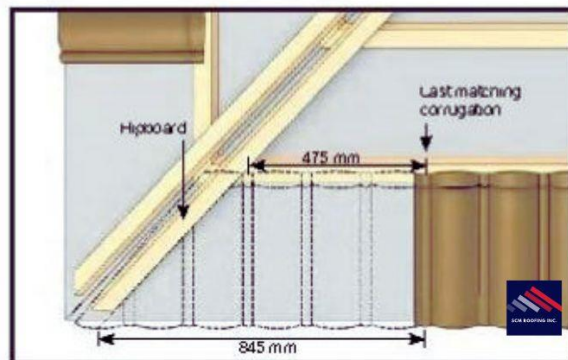

Figure 1.7
Measurements are made on the roof, but tiles are normally marked, cut, bent and stacked on the ground. To save time marking, cutting and bending each tile, it is best done by two installers - one to measure and the other to write the measurements down on a board or piece of paper as shown (Fig 1.7). To avoid confusion, cut, bend and stack tiles in strict order.
- (i) The basic measurement (recorded on paper or board) is taken from the last corrugation on the bottom corner of the last full tile, to the hip board, along the front edge of the batten (Fig 1.7).
- (ii) Measure and mark on the tiles with chalk or similar, the required measurements taken from the roof, ensuring the MATCHING corrugation of the overlapping tile to be cut, is taken as the measure starting point (Fig 1.7). This forms the BENDING line (Fig 1.9).